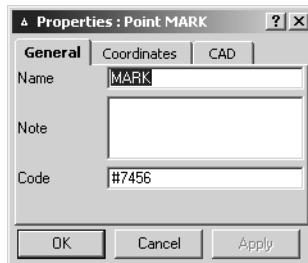

Figure 4-29. Coordinate Properties – General Tab
2. On the *Properties* dialog box, click the *General* tab (Figure 4-29).